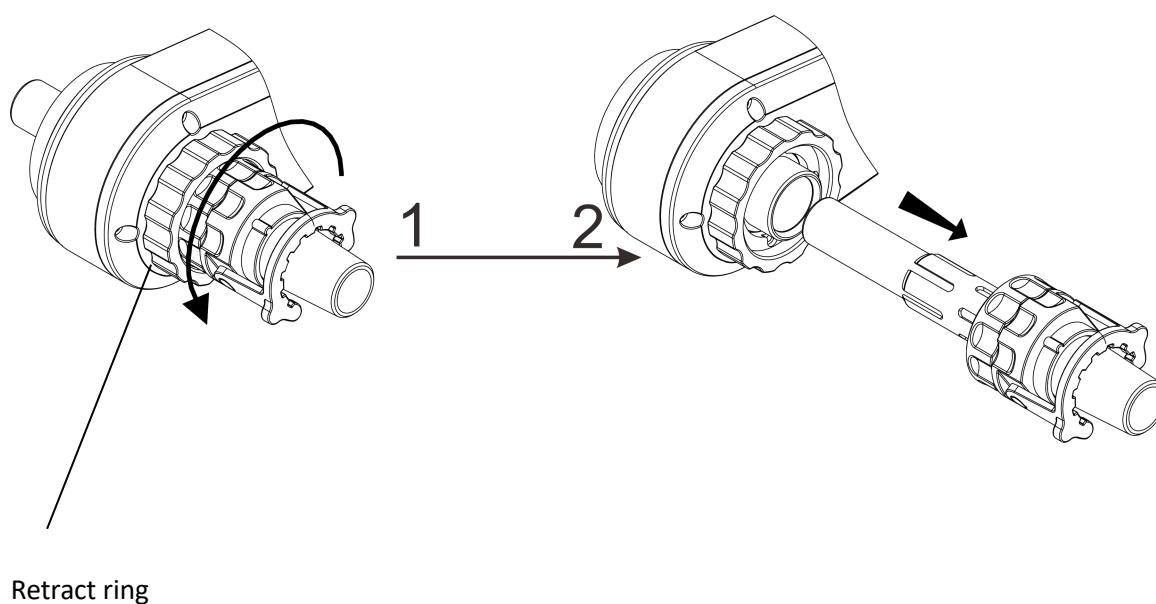

Figure 19
(6) Disassembly of the rotating shaft: (see Figure 19)